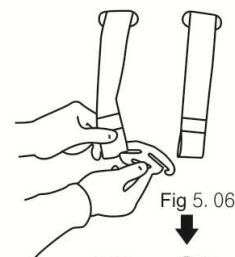
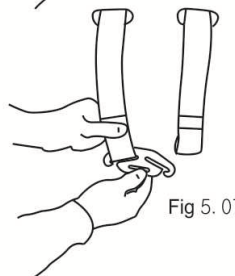

Fig 5.06
Fig 5.07
5.2.1 Put the harness into the harness connector (Fig 5.06, Fig 5.07). Oppositely, u can take it off.